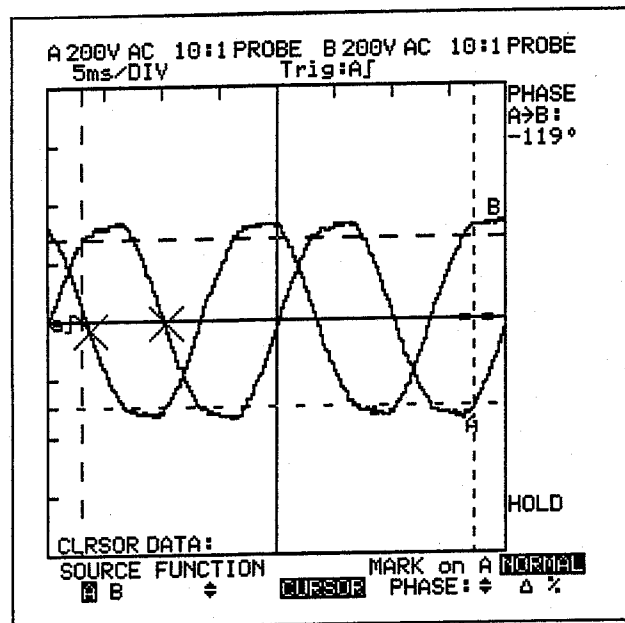

Figure 5.10 Phase measurement with markers
⑤ **CURSOR** **CURSOR** **1** **2** Position the two cursors on the waveform, see Figure 5.10.
⑥ ScopeMeters display shows the phase between the waveforms on channel A and channel B: "PHASE A→B -119°" (see Figure 5.10).